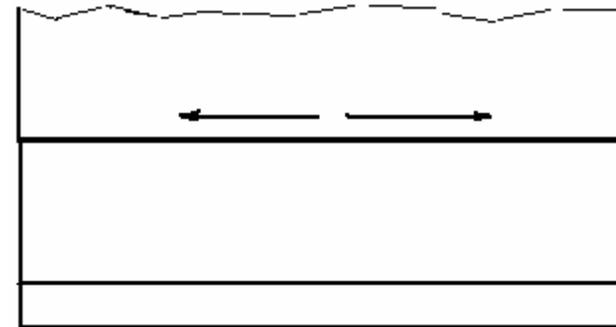

Fig 1
- ❑ Start to weld in the middle and continue out to the free edge, Fig 1